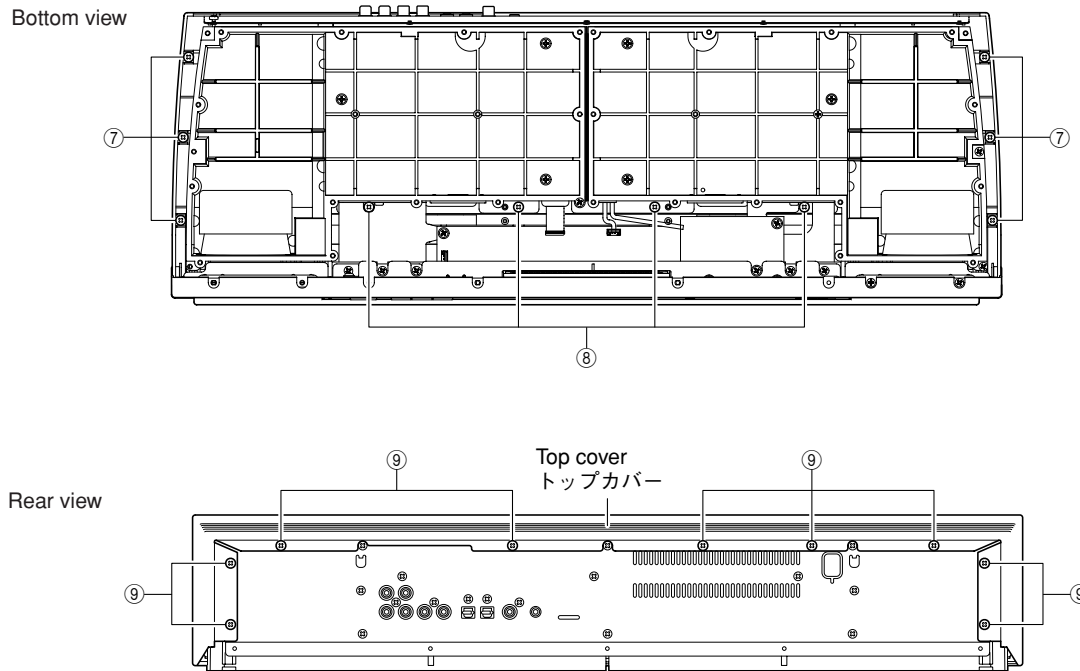

Fig. 9
- a. Remove 6 screws (⑦), 4 screws (⑧) and 9 screws (⑨). (Fig. 9)
- a. ⑦のネジ6本、⑧のネジ4本、⑨のネジ9本を外します。(Fig. 9)